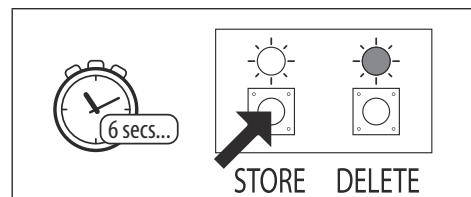

Fig. 16
1. First press and hold down the store button for approximately 6 seconds until the green store LED switches **OFF** and the red delete LED stays **ON**, see **Fig.16**.